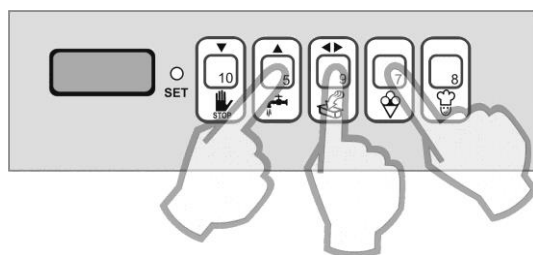

Fig. 2
4. Press the “**AGITAZIONE (MIXING)** (▲)”, “**AUTOMATICO (AUTOMATIC)**” and “**ESTRAZIONE (EXTRACTION)** (◀▶)” keys simultaneously to type in the password and then confirm it.(Fig. 2). If you do not know the password, contact the TAYLOR assistance service.